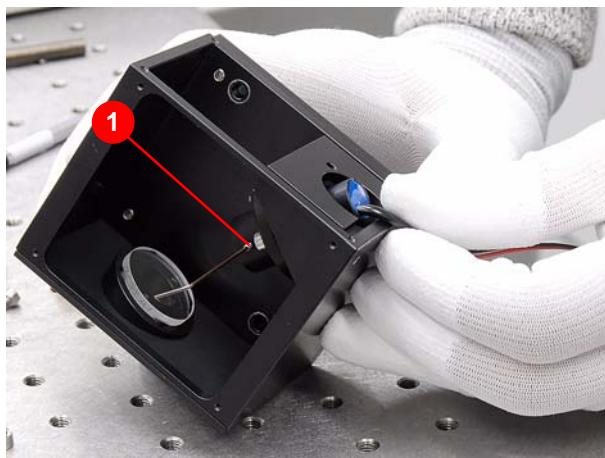

Figure 7.143 Removing the alignment laser
8. Carefully withdraw the alignment laser after loosening the headless screw (1) (Figure 7.143).